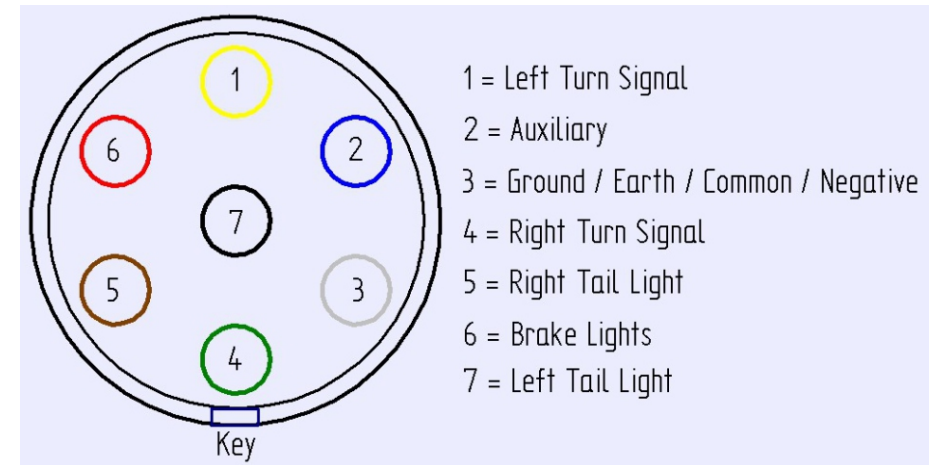

Figure 3
- Figure 3 shows the standard recommended wiring diagram for trailer plugs in South Africa